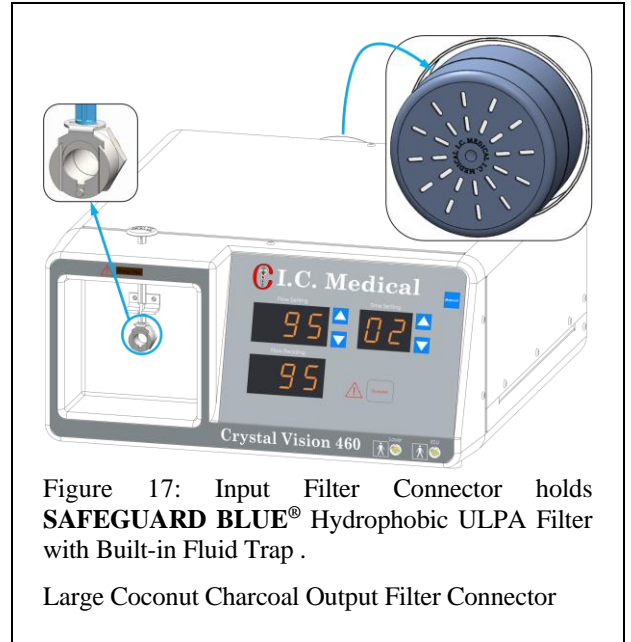

Figure 17: Input Filter Connector holds **SAFEGUARD BLUE®** Hydrophobic ULPA Filter with Built-in Fluid Trap .
10. **INPUT FILTER CONNECTOR** (Figure 17) holds the **SAFEGUARD BLUE®** Hydrophobic ULPA Filter with Built-in Fluid Trap. The metal ring is pushed down to allow the **SAFEGUARD BLUE®** Hydrophobic ULPA Filter with Built-in Fluid Trap to be released. Replace cap on end of **SAFEGUARD BLUE®** Hydrophobic ULPA Filter with Built-in Fluid Trap between uses. Change the **SAFEGUARD BLUE®** Hydrophobic ULPA Filter with Built-in Fluid Trap when CHANGE FILTER indicator illuminates.
11. **Large Coconut Charcoal OUTPUT FILTER CONNECTOR (connector not shown)** (Figure 17). The Large Coconut Charcoal OUTPUT FILTER CONNECTOR is located on the back panel of the CRYSTAL VISION® and holds the Large Coconut Charcoal Output Filter. The Large Coconut Charcoal Output Filter is reusable for several cases. The Large Coconut Charcoal Output Filter has a functional life of three months. The Large Coconut Charcoal Output Filter provides odor control and reduces vacuum pump noise.